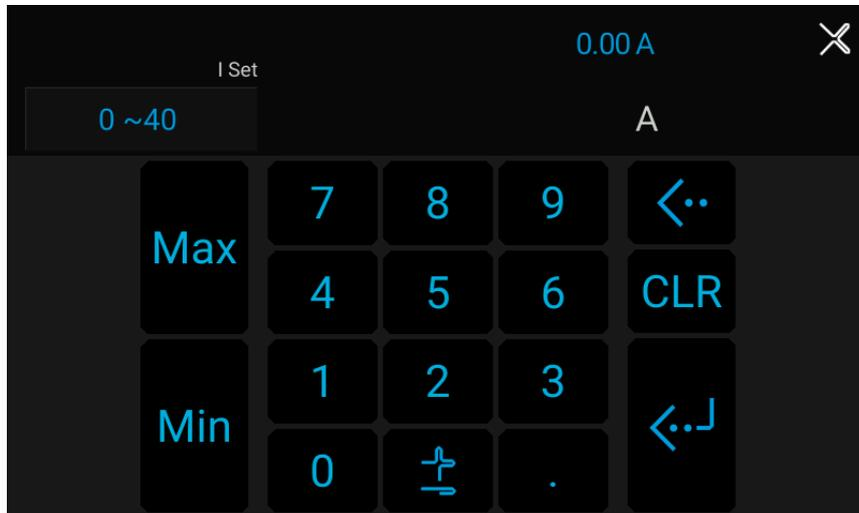

Figure 3-4
1. When the value of I Set is done, the touch panel will switch to a numeric keypad as Figure 3-4 shows.